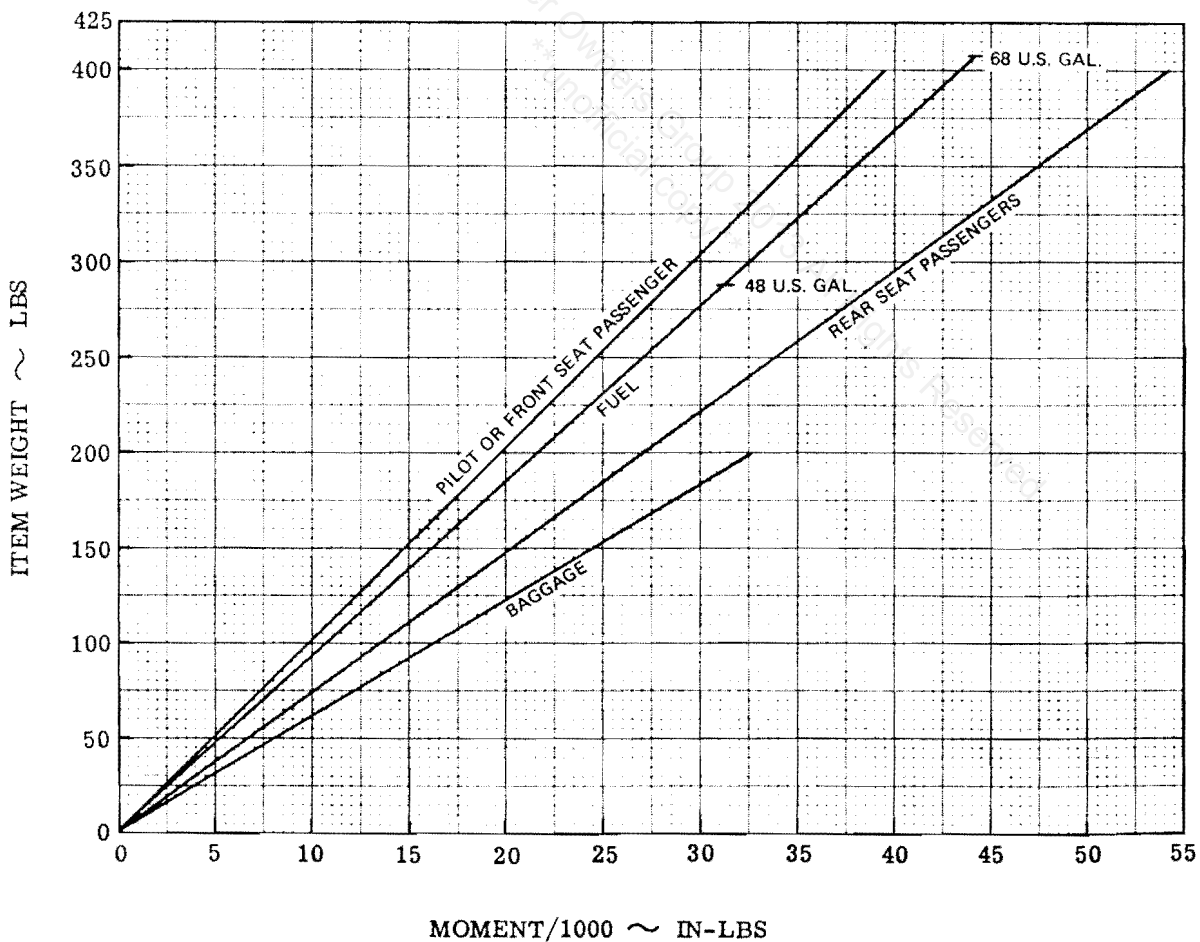
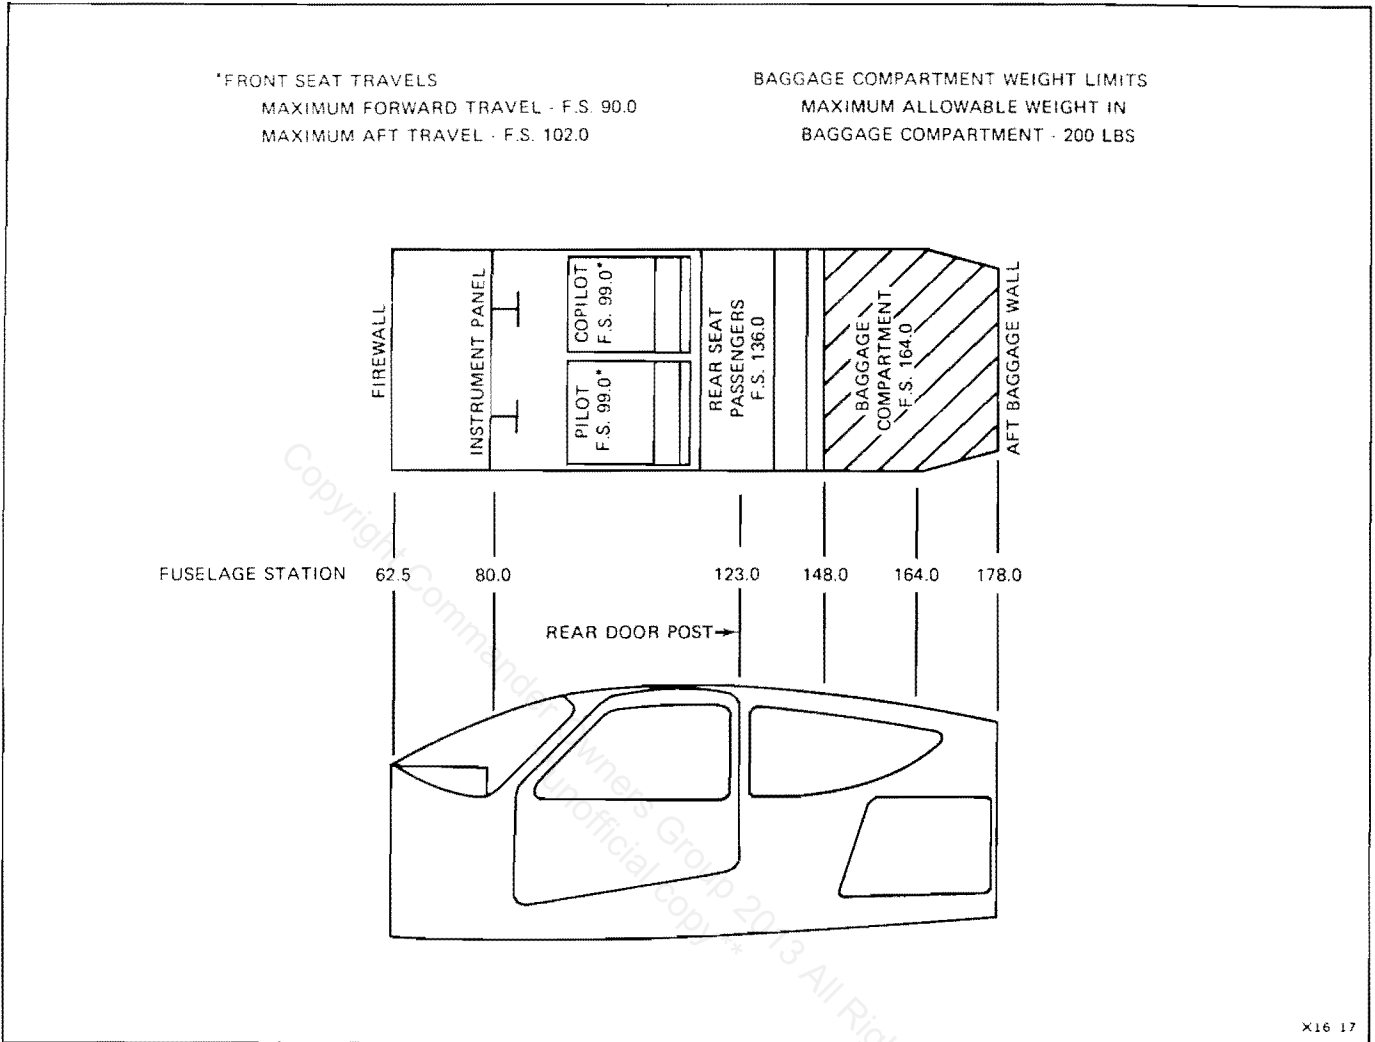

Figure 6-1. Loading Graph
Figure 6-2. Cabin Station Diagram
Seats should be located per Weight and Balance Statement (Form No. AC 1751) with the seat backs in a vertical position (see Figure 6-2).
Determine the weight of the pilot, then refer to the loading graph (Figure 6-1) to determine the moment/1000 value. Enter these numbers in the Item 2 row under the appropriate columns of the Airplane Weight and Balance Statement.
- a. Determine the front seat(s) location with respect to a Fuselage Station. (Front seat F.S. travels are depicted in Figure 6-2).
Determine the weight of the passengers then refer to the loading graph (Figure 6-1) to determine the moment/1000 value, using the proper loading lines. Enter the weight and the moment/1000 under the appropriate columns of the Item 3 row of the Airplane Weight and Balance Statement.
Determine the weight of cargo and/or baggage to be carried, then refer to the loading graph (Figure 6-1) to determine the moment/1000 value. It must be noted that the loading graph for the baggage assumes a fixed fuselage station location of 164.0 inches; however, at times it might be desirable to carry baggage in different areas of the baggage compartment or the cabin. Should this be the case, refer to Figure 6-2 to determine the fuselage station location, then calculate the moment/1000 by using the same procedure explained in Step No. 2. Enter the weights and moment/1000 values in Row 4 under the appropriate columns of the Airplane Weight and Balance Statement.